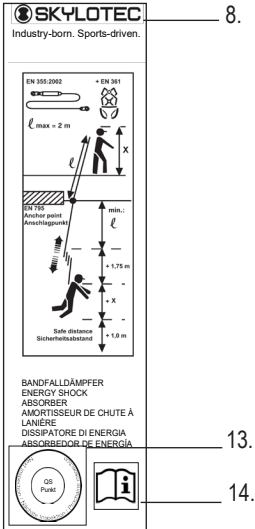

Abb. 2
All instructions that come with the product must be read and understood before use. The restraining fastener is used in connection with a harness exclusively to protect persons who are exposed to the danger of a fall during their work (e.g. on ladders, roofs, scaffolding, etc). The product may only be used by people who have been trained to use it correctly and who have the relevant expertise. The entire system is only suitable for use by one person. A rescue plan must be made to cover all possible emergencies. The components of a complete system must never be used individually or be replaced by non-certified products. If the system is to be used for fall arrest purposes, it must be fitted with a device (e.g. energy absorber), which limits the dynamic forces in the event of a fall arrest procedure to a maximum of 6 kN. The lifetime of the equipment, depending on the frequency of use and environmental conditions, is a maximum of ten years. A lanyard (e.g. according to EN 354) may only be used for fall arrest purposes if an additional energy absorber in accordance with EN 355 is used. Function: The integrated attenuator limits the energy resulting during a fall to a body-compatible extent through a length change (see Δl , Figs. 2+3). The fastener may not be used any longer after an actual fall has occurred! Attach the energy absorber (see Fig. 1): 1. Only clip the harness connection (1) to a fall-arrest attachment point on the harness marked as "A" (e.g. according to EN 361).